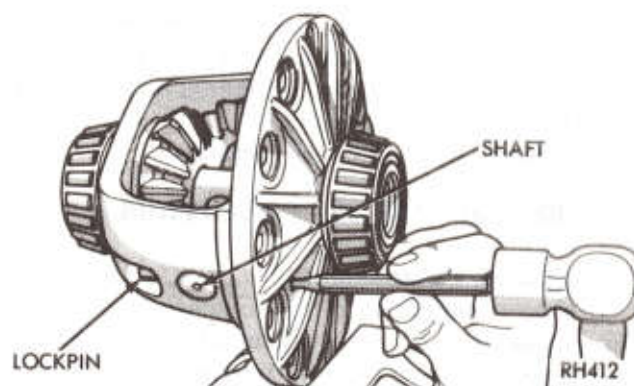

Fig. 23—Removing Differential Pinion Shaft Lockpin (Typical)
(15) Using Tool C-748, remove drive pinion oil seal. Remove slinger, gasket, front pinion bearing cone and preload shim pack. Record the thickness of the shims in case they should be lost.
(16) Press out the drive pinion and rear bearing cone assembly.
(17) Using Tool D-158 and Handle C-4171, remove front pinion bearing cup. Using Tool D-162 and Handle C-4171 remove rear pinion bearing cup. Remove and record thickness of shim pack from behind rear pinion bearing cup.
(18) Remove rear bearing cone from drive pinion stem using Tool DD-914-P Adapter Ring DD-914-9 and C-293-37 adapters (or Tool C-293-P and adapters C-293-37).
(19) Place differential case in a vise equipped with soft jaws. Drive out lock pin securing differential pinion shaft to case (Fig. 23).
(20) Remove differential pinion mate shaft, differential pinion mates and thrust washer (one back of each pinion). Remove differential side gears and thrust washers (one back of each gear).